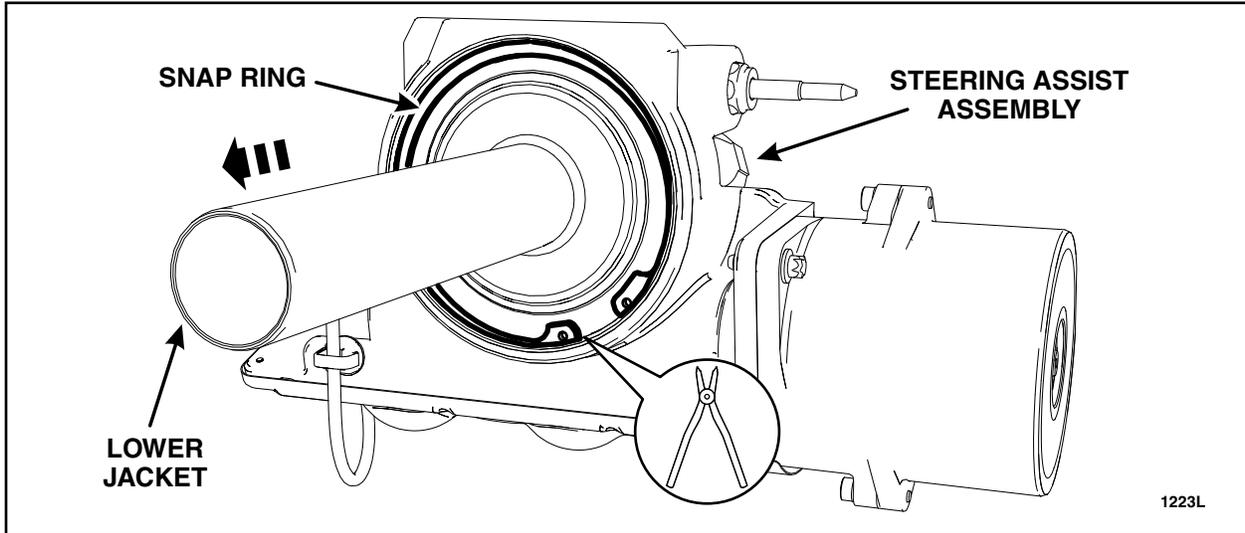

FIGURE 10
14. Remove the snap ring using Rotor Clip® RP-900 ratchet and grip ring pliers or equivalent. Remove the lower jacket. See Figure 10.